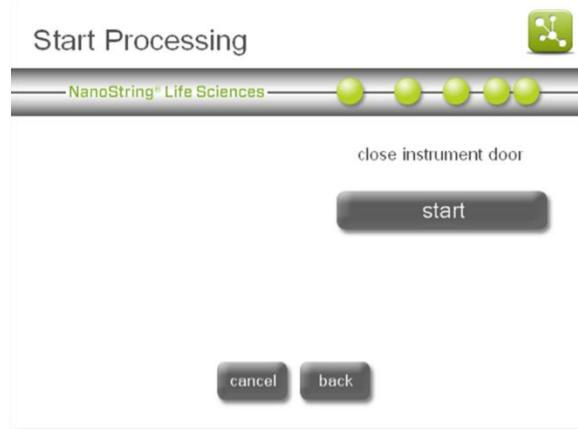

Figure 33: The ‘Start Processing’ screen.
15. The ‘Start Processing’ screen will appear (**Figure 33**). Press **start** when ready to begin processing.